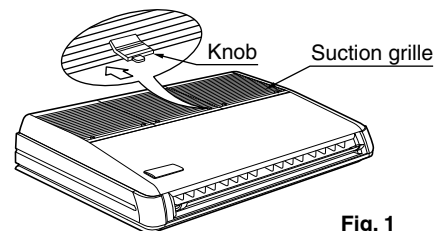

Fig. 1
- (1) **Relation of holes for indoor unit, suspension bolt position, piping and wiring.**
- (2) **Make holes for suspension bolts, refrigerant and drain pipe, and wire.**
- (3) **Remove the parts from the indoor unit.**
- Slide the locking knobs (x2) on the suction grille inward (direction of arrows) and lift upwards. **(Refer to Fig. 1)**